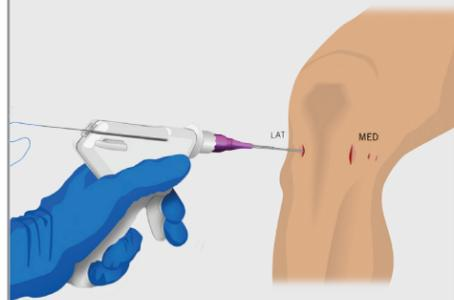

FIG. 8E.
- Please refer to Ivy Sports Medicine's SharpShooter® Technique Guide for inside-out technique instructions. **FIG 8E**